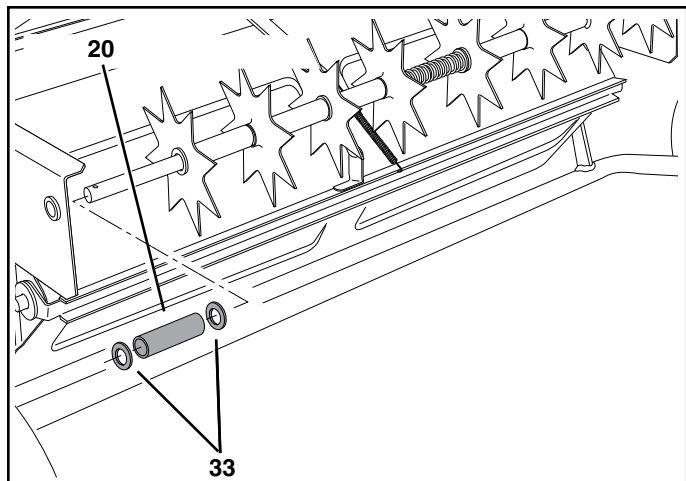

FIGURE 20
- Place two 5/8" flat washers (33) separated by a long spacer tube (20) onto the shaft. See figure 20.